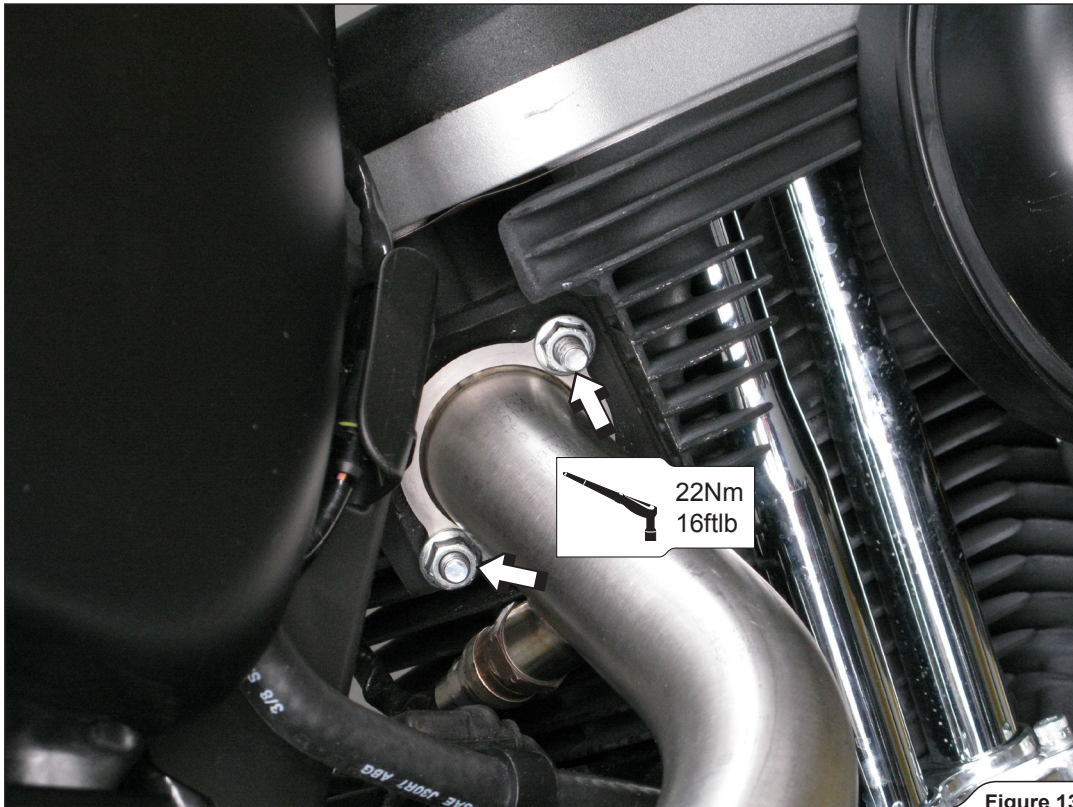

Figure 13
7. Tighten headers' flanges and header's clamp to the specified torque (Figure 13, 14).